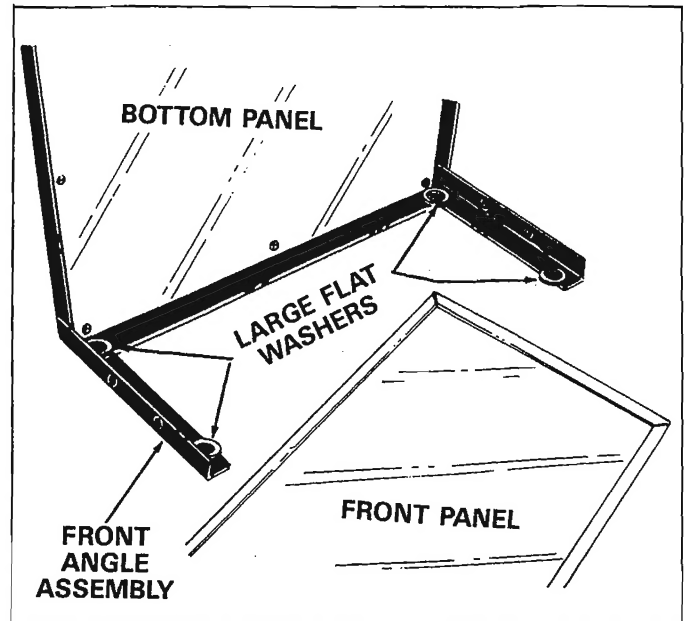

FIGURE 4
6. Stand cart on its front end with front angle assembly on the floor. See figure 4.
7. Place four large  $1-1/2''$  dia. flatwashers (used on wheel axle) on the inside of front angle assembly. See figure 4.